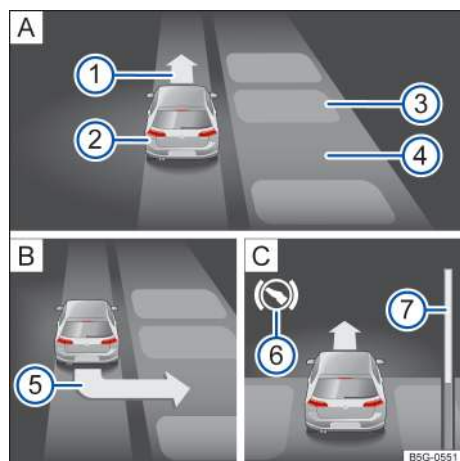

Fig. 121 In the instrument cluster display: Parking perpendicular to the road.
- Drive into the parking space when the prompt to park appears → **fig. 121 **.
When the prompt to park appears → fig. 121 ⑤, select a different parking mode by pressing the **Pa** button → fig. 119 again. After all relevant parking modes have been displayed, Park Assist switches off automatically. The originally recommended parking mode is displayed again if you press the **Pa** button → fig. 119 another time.
Key to fig. 121: